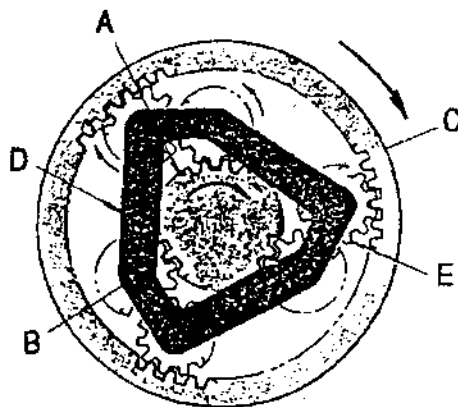

Fig. 2-13
The above principle is a structural principle of the first, third and fourth planetary gear system. The sun gear (A) is taken as driving in the first planetary system. The carrier (D) is taken as driving in the third and fourth planetary gear system. If the opposite direction to that of the above mentioned output rotation is wanted, just add a set of planetary gear (E). (See Fig 2-13). This transmission type of A-B-E-C is the structural principle of second planetary gear system.